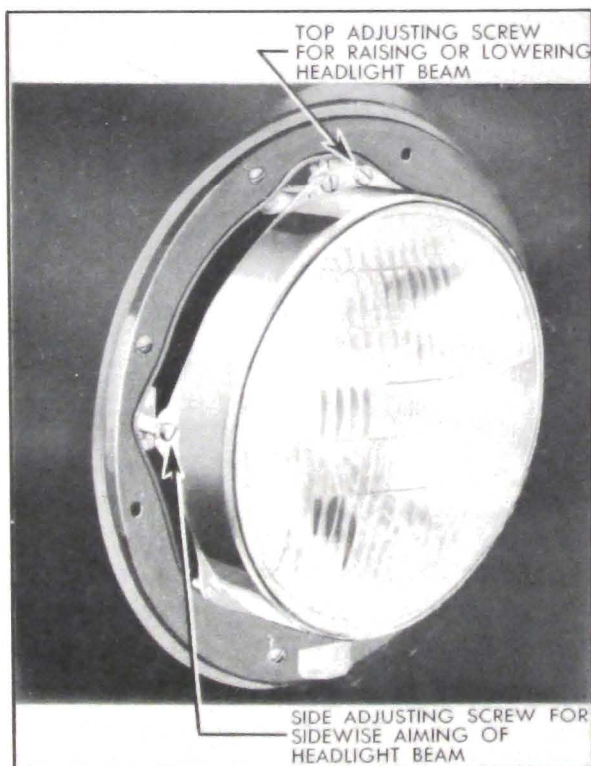

Figure 10-100—Headlamp Aiming Adjustments
2. Adjust light beam up or down as required by turning the top beam adjusting screw. See figure 10-100.